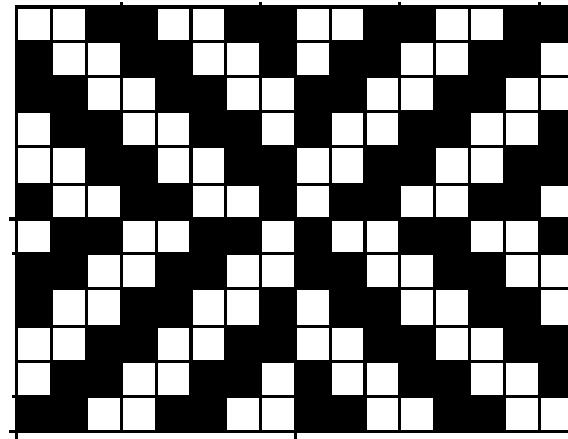

Fig.3.30 Diaper weave
- ✓ Diaper designs are based on **herringbone twill** combining with a horizontal herringbone twill. See Fig.3.30